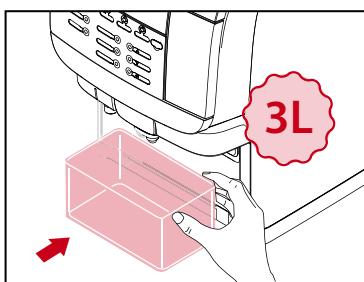

Fig.2
3. Remove the drip tray and place a 3 liter / 3 quart container (See Fig.2) under the drink outlets, then press **ENTER** (See Fig.3).